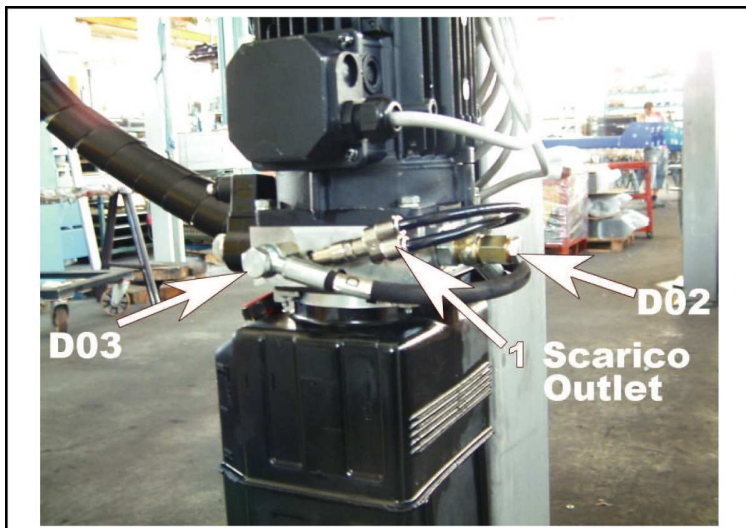

Fig.49 Hydraulic system
Fig.49: Connect the rubber high pressure pipes (D02 and D03) to the cabinet with the screw and the washers, lock them. Insert the discharge pipes, connected to the connection placed on the principal lift cylinder bottom and to the connection of the play detector to the 3-ways connection (1). Fill the hydraulic power reservoir with oil to maximum level (for oil type see 1.2 Specifications).